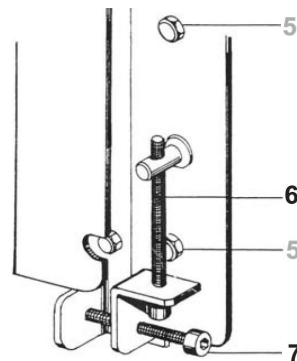

Fig. 18: Aligning the sliding plate
Step 5: Tighten the hexagon bolts again (item 5, Fig.18)